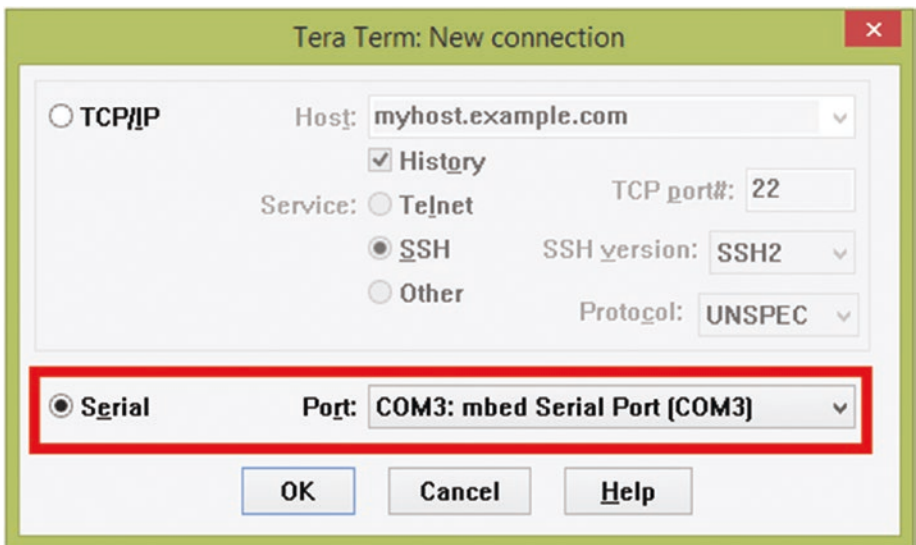

Figure A-4. Choosing the serial port for micro:bit
1. Tera Term opens and prompts you for a new connection (see Figure A-4). Select the Serial option and choose the correct COM port from the drop-down list for your micro:bit. Usually, the COM port for your micro:bit is called `mbed serial port`. Click OK; you should see a blank Tera Term window.